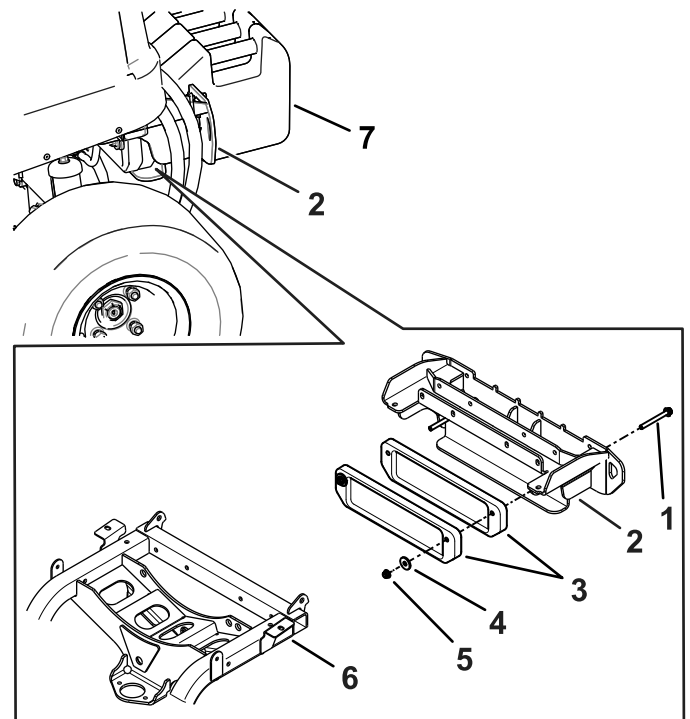

Figure 30
1. Install 2 weights (6 kg or 15 lb) between the frame and the rear bumper with 2 bolts (3/8 x 3-1/2 inches), 2 washers (3/8 inch), and 2 locknuts (3/8 inch). Refer to Figure 30.